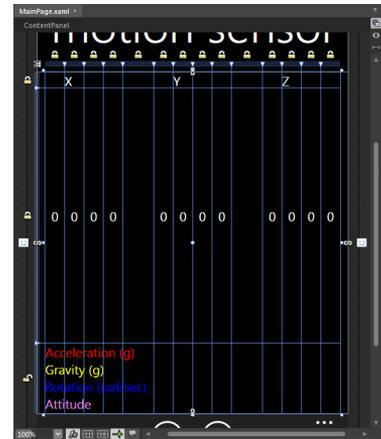

Figure 8.8 A screen shot of the ContentPanel in `MainPage.xaml` as displayed by the designer view in Microsoft Expression Blend
① Fourteen columns
② Three bars for each data point
③ Legend and messages
You start by dividing the ContentPanel into three rows and fourteen columns ①. The first row contains three TextBlocks serving as the titles for the x, y, and z coordinates. The second row shows three bars ② for each of the linear acceleration, gravity, rotation, and attitude readings. Allowing for three columns for each reading, and two spacer columns, you need a total of fourteen columns, as displayed in figure 8.8. The last row ③ contains a legend and messages.